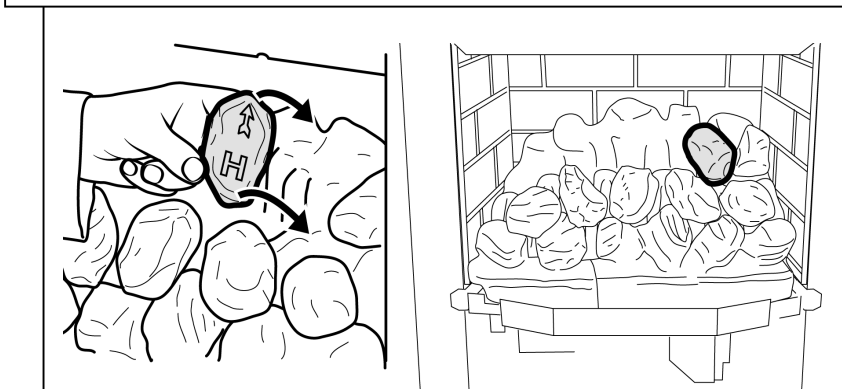

Figure 44. Third row "Coal H"
**17.** Hold coal 'H' upright with the arrow pointing to the top. Locate coal 'H' as shown in figure 44